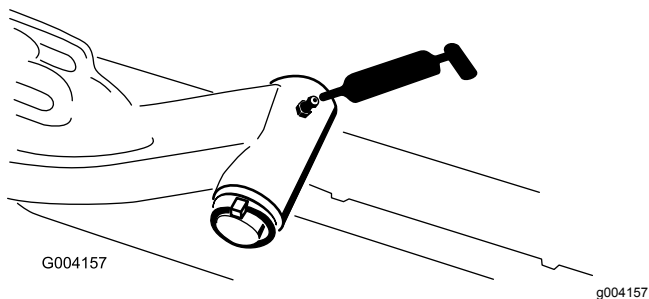

Figure 64
- Lift arm pivot shaft (1 each) (Figure 64)